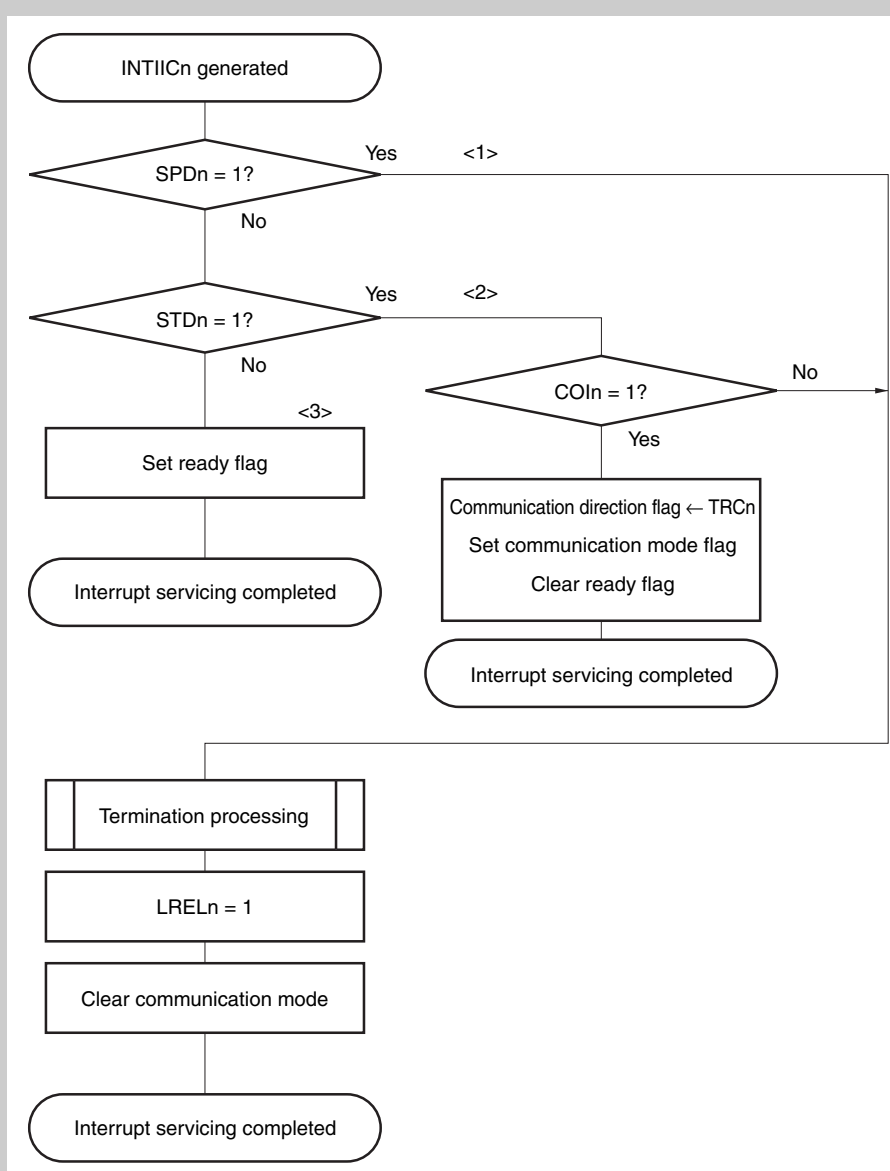

Figure 17-18 Slave operation flowchart (2)
**Note** <1> to <3> in the above correspond to <1> to <3> in Figure 17-18.